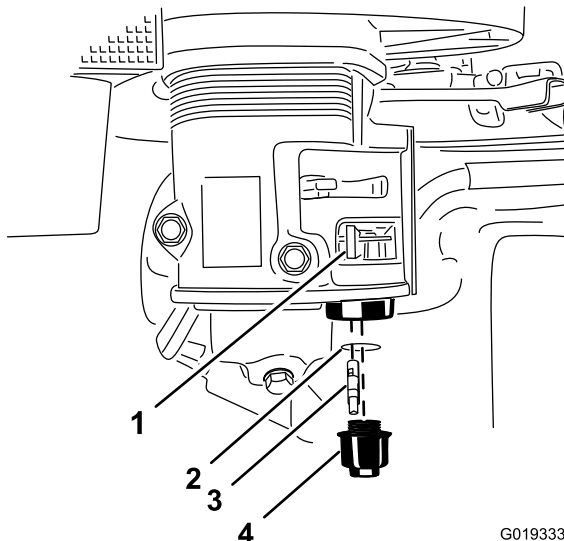

Figure 52
3. Move the lever of the fuel valve to the Off position, all the way to the left (Figure 52).
4. Unscrew the sediment cup (Figure 52).
5. Remove the fuel filter and O-ring (Figure 52).
8. Install the fuel filter in the bottom of the carburetor (Figure 52).